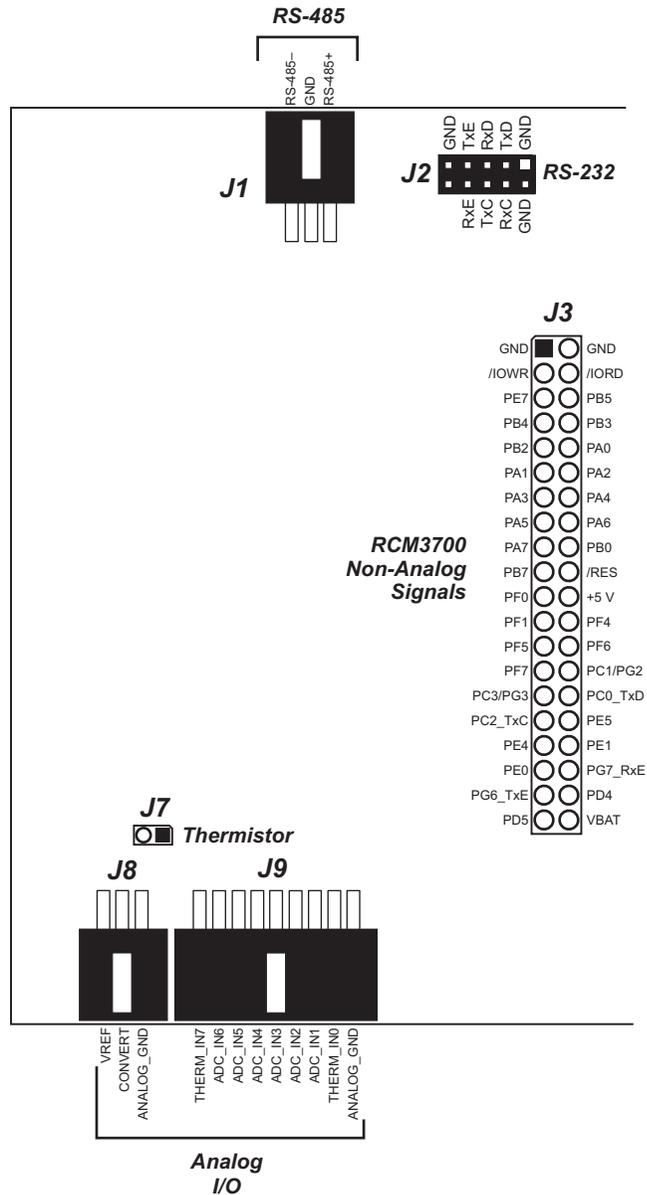

Figure B-4. Prototyping Board Pinout
- **Module Extension Headers**—The complete non-analog pin set of the RCM3600 module is duplicated at header J3. Developers can solder wires directly into the appropriate holes, or, for more flexible development, a 2 x 20 header strip with a 0.1" pitch can be soldered into place. See Figure B-4 for the header pinouts.
- **Analog I/O Shrouded Headers**—The complete analog pin set of the RCM3600 Prototyping Board is available on shrouded headers J8 and J9. See Figure B-4 for the header pinouts.
The Prototyping Board pinouts are shown in Figure B-4.
Analog input THERM_IN7 on the Prototyping Board was designed specifically for use with a thermistor in conjunction with the `THERMISTOR.C` sample program, which demonstrates how to use analog input THERM_IN7 to calculate temperature for display to the Dynamic C `STDIO` window. The sample program is targeted specifically for the thermistor included with the Development Kit with $R_0 @ 25^\circ\text{C} = 3 \text{ k}\Omega$ and $\beta 25/85 = 3965$. Be sure to use the applicable R_0 and β values for your thermistor if you use another thermistor. Install the thermistor at location J7, which is shown in Figure B-4.